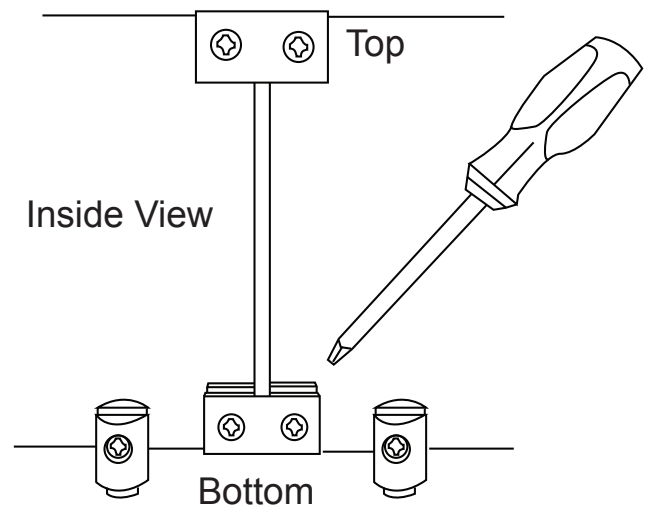

Fig. 3 Securing the straight bracket and two bottom foot supports with the Phillips screwdriver.
STEP 2: Connect the two long glass panels at the bottom using another straight bracket in the same manner. Install two bottom foot supports approximately 1-inch away from the straight bracket. See Fig. 3.